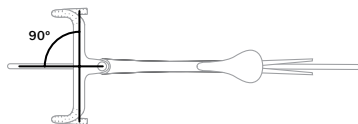

Figure 1.6: Proper alignment of handlebar and saddle.
- Make sure the bar is at 90 degrees to the wheel (Figure 1.6).
- Make sure the saddle is in line with the center of the bike (Figure 1.6).